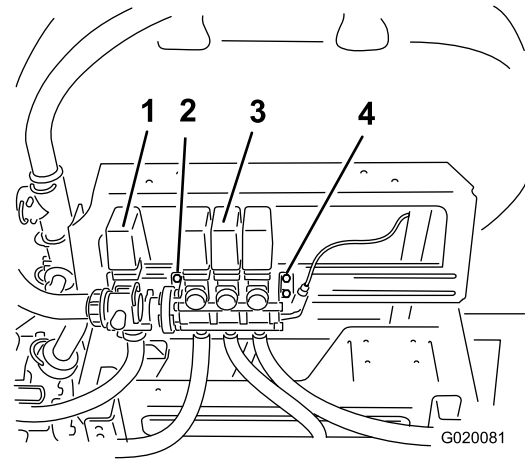
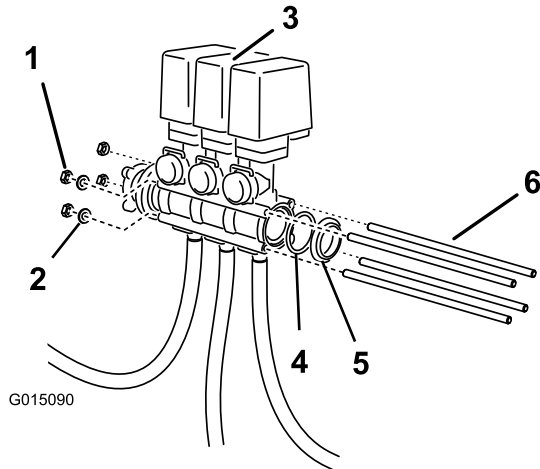

Figure 4
Figure 6
1. Loosen, but do not remove, the bolts that secure the boom valve assembly to the right-hand mount bracket (Figure 4).
8. Insert the threaded rods through the holes in the valve bodies of the boom bypass valves, and for the 2 rods closest to the mounting rail, through the left-hand mount bracket (Figure 4 and Figure 6).